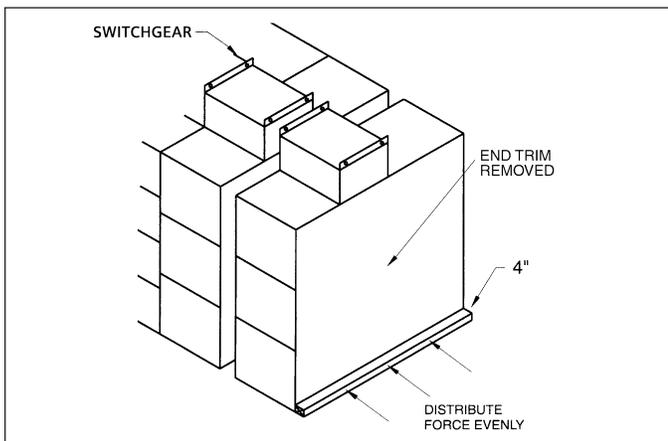

Figure 5. Final positioning of switchgear in obstructed areas without a crane
7. Where top lift capability is not available, protect the switchgear bottom with support timbers and move with jacks and rollers just to the side of its final position. Remove rollers, shipping skid, and other packaging materials and remove jacking facilities. Clear any obstructions. The equipment may be slid sideways to join the shipping split. Any sliding force must be carefully applied across the bottom 4 inches (100mm) of the switchgear side with proper cribbing to fully distribute the force across the full depth of side. The end trim covers must be removed from the last section to keep them from being crushed when sliding the equipment. Replace end trim when gear is in its final position. Watch for conduit stubbing as equipment is slid into place. See Figure 5.